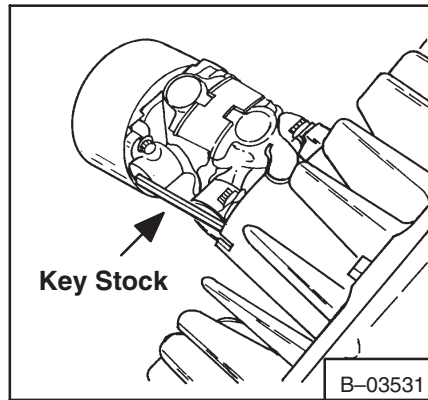

Fig. 3-151 U-Joint Alignment
4. Put a flat metal (Example: Key Stock) against the spiders on the drive coupler, to check coupling alignment (Fig. 3-151).